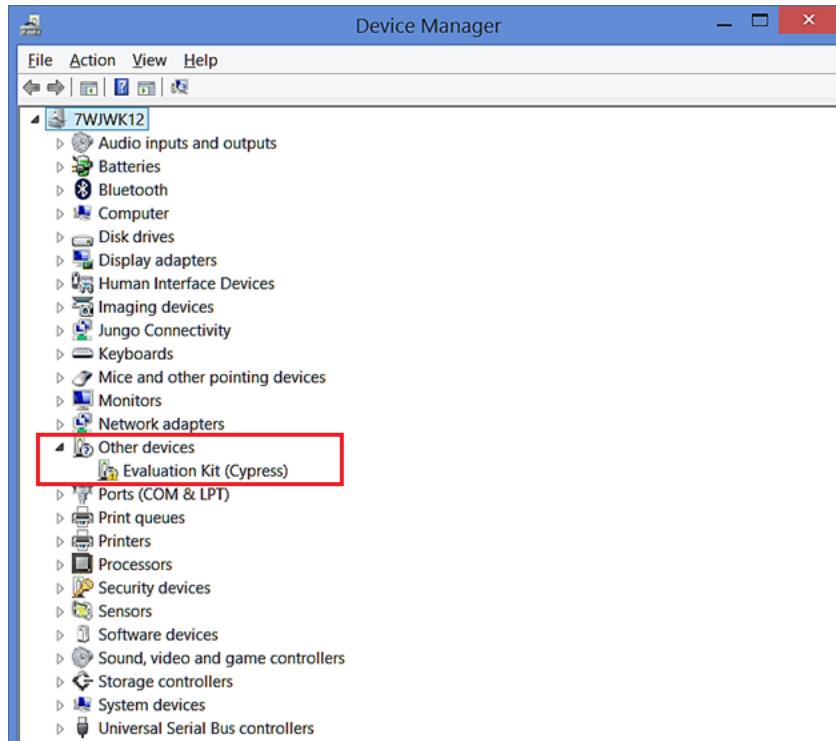

Figure 14: Device Manager View
- Open the Device Manager where you should find the “Evaluation Kit (Cypress)” (Figure 14)